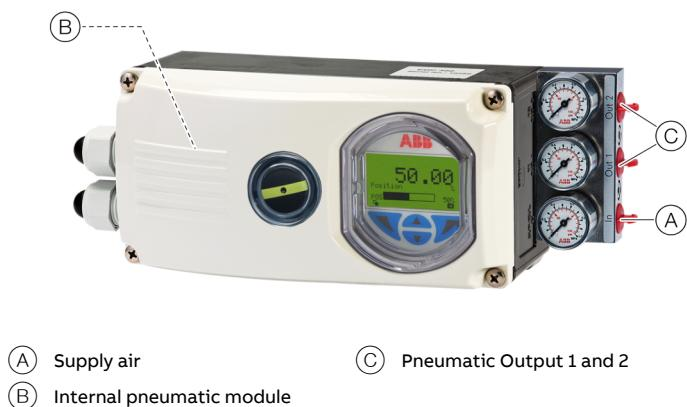

Figure 1: Overview air filter system
The EDP300's internal air filter system as shown in Figure 1 helps protect the positioner against dust and contaminants that may enter from the instrument air supply (A) or from the actuator (C) during operation. In addition to these filters the EDP300 incorporates a high quality sintered filter to protect the internal pneumatic module (B) from contamination.